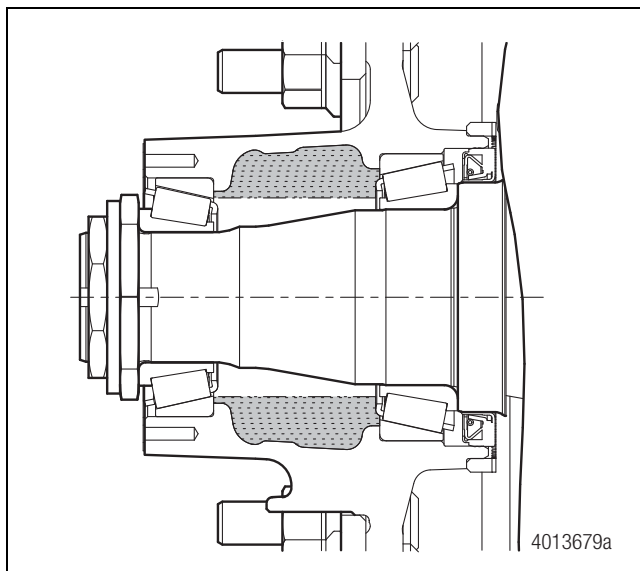

Figure 13.6
3. Pack the area of the hub between the two bearings with grease up to the smallest diameter of the bearing cups. Remove excess grease. Figure 13.6.